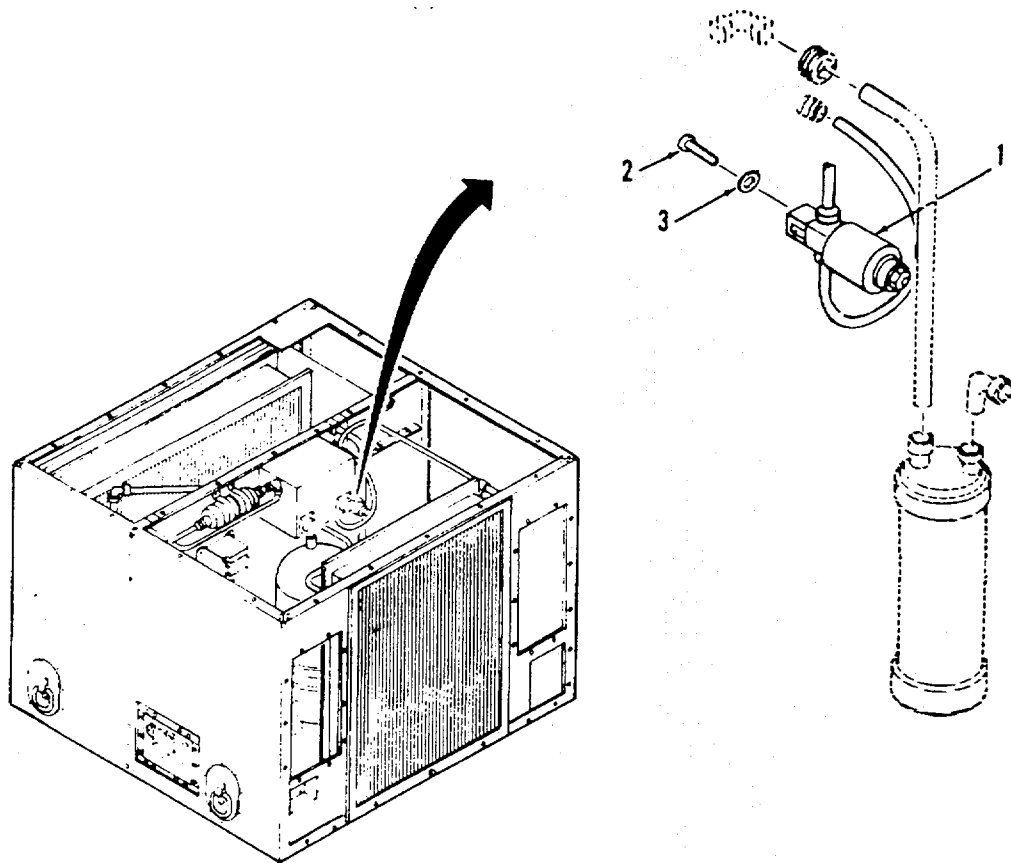

Figure 4-13. Solenoid Valve.
- a. **Test.** (Refer to Figure 4-13).